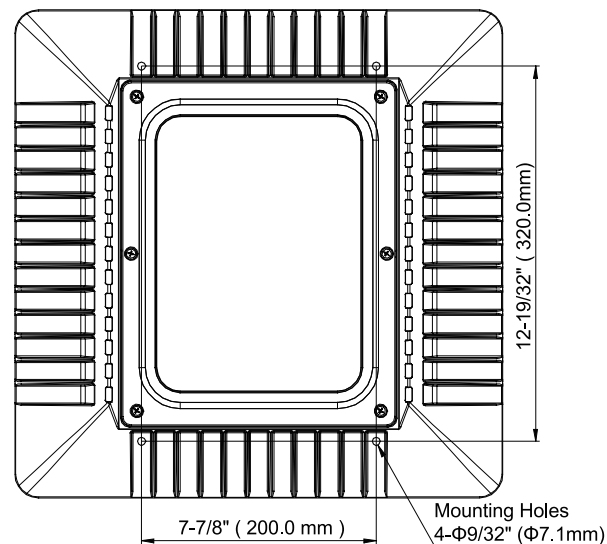

Figure 4
2. Bring housing to canopy ceiling. Insert driver box and Safety Rope (2) into the rectangular opening. Support the luminaire to the building structure by the Safety Rope (2). Secure the housing to canopy ceiling with customer supplied UNC 1/4" Screw (4). See Figure 4 .